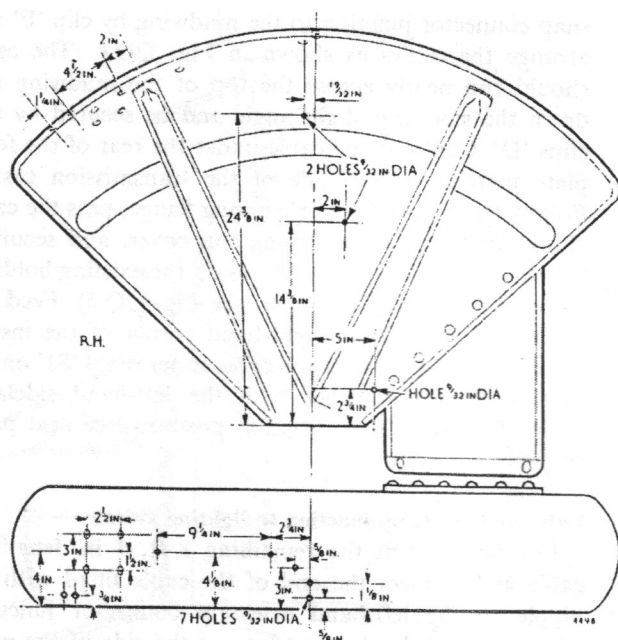

Fig. QQ.3
- (2) Right-hand wing: Drill 14 $\frac{3}{32}$ in. (7.14 mm.) diameter holes in the positions shown in Fig. QQ.3.